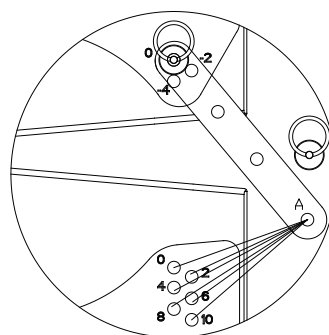

Figure 1 ($0^{\circ} \sim 10^{\circ}$ adjustment)
- 1) $0^{\circ} \sim 10^{\circ}$ adjustment: insert the pin into 0 hole at B, and insert into the relative hole at A (refer to figure 1), e.g. if you need to adjust to 8 degree, insert into 0 hole at B, and 8 degree at A.